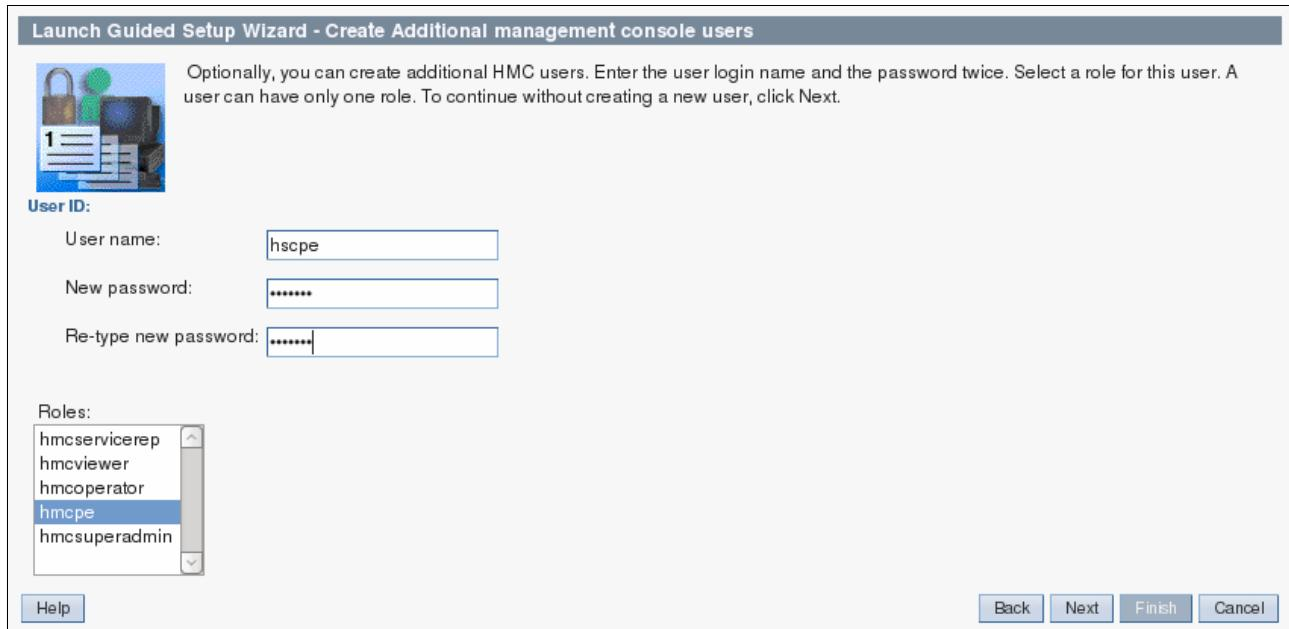

Figure 3-84 Create an hscpe user
13. You can create the hscpe user and hmcpe role with a password, as shown in Figure 3-84, and click **Next**.